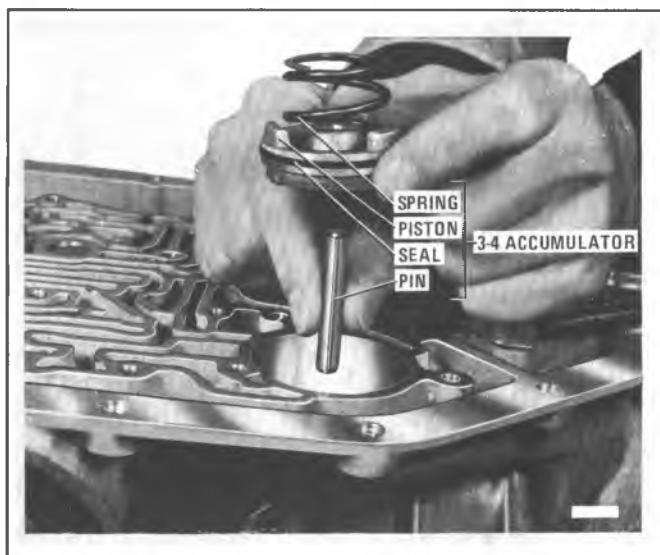

Figure 7A6-229 Installing 3-4 Accumulator Assembly in Case
4. Install 3-4 accumulator piston and spring in case (Figure 7A6-229).
5. Install eight (8) check balls in the locations shown in Figure 7A6-230.
6. Install two guides as shown in Figure 7A6-232.
7. Install the spacer plate to case gasket marked "C" on the case (Figure 7A6-231).
8. Install the spacer plate (Figure 7A6-233).
9. Install the control valve assembly to spacer plate gasket marked "VB" on the spacer plate (Figure 7A6-233).
11. Install the 1-2 accumulator plate and gasket as shown in Figure 7A6-234.
12. Install the 1-2 accumulator spring on plate (Figure 7A6-234).
13. Install a new teflon seal on the 1-2 accumulator piston (Figure 7A6-235).